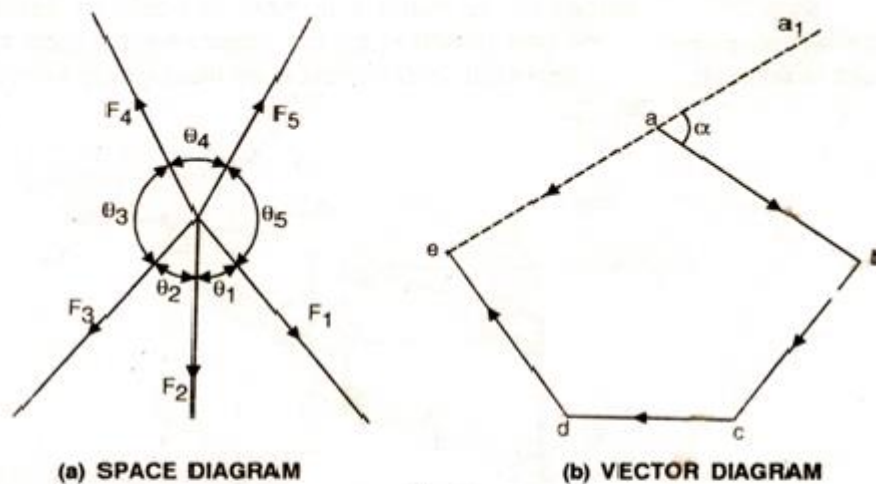

Fig. 2
6. Draw the space diagram of the forces $F_1 = W_1, F_2 = W_2, F_3 = W_3, F_4 = W_4$ and $F_5 = W_5$ as shown in Fig. 2 (a).
7. Draw the vector diagram abcde as shown in Fig. 2 (b). If the last force F_5 represented by the side ea falls short or is greater than the side which would complete the polygon, then measure the side which would complete the polygon and find the percentage error between the force F_5 and the force required to complete the polygon.